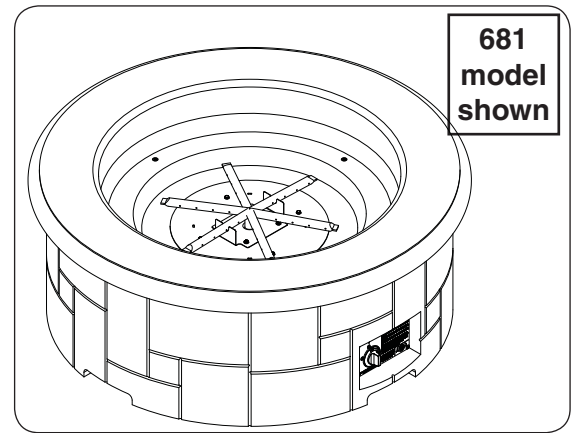

Fig. 19-1 Place unit
1. **CAREFULLY** place the unit in an appropriate location (see Fig. 19-1, and refer back to the LOCATION section if needed).